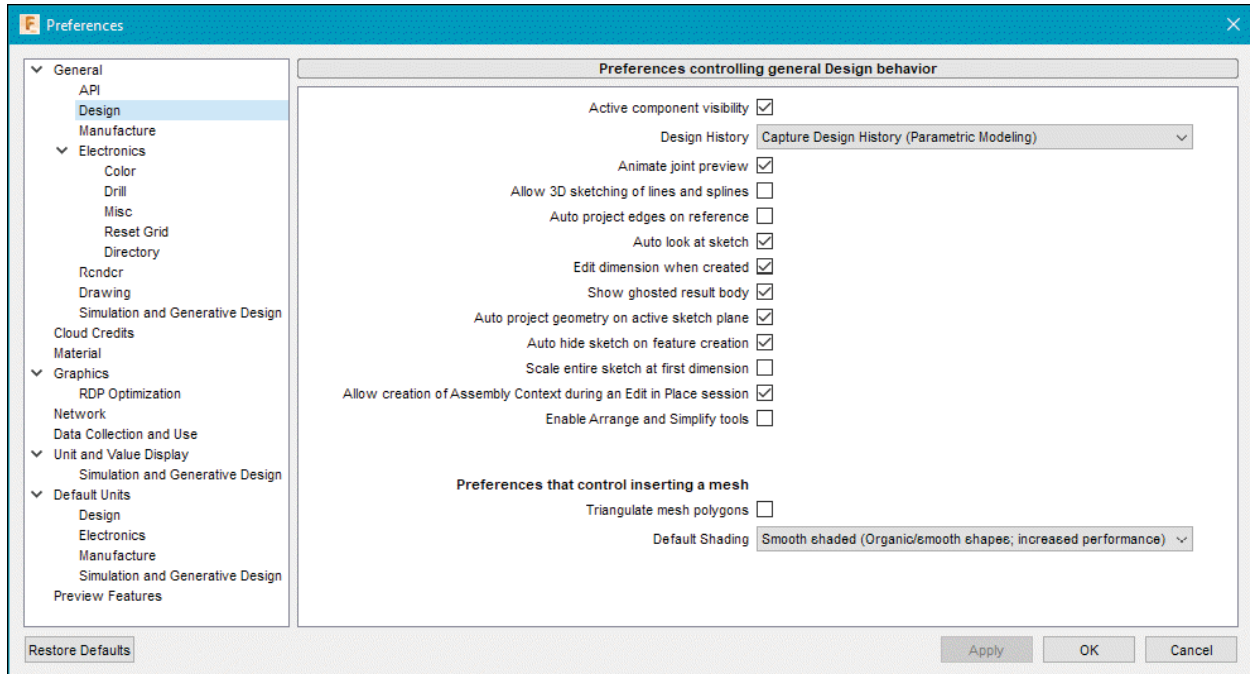

Figure-90. Design Page
- Click on the **Design** option under **General** node in the left of the dialog box to set the parameters related to model creation. The options in the dialog box will be displayed as shown in Figure-90.